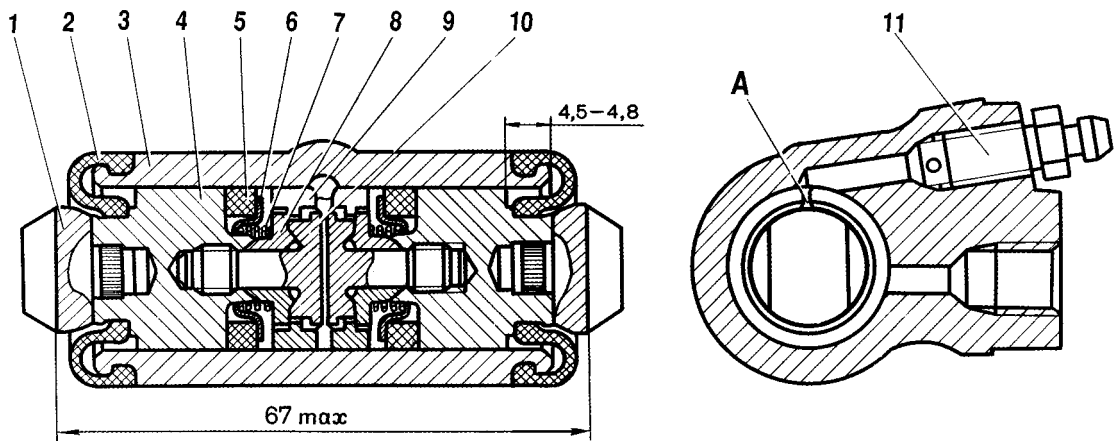

Fig. 6-19. Wheel cylinder:
Remove protective caps 2 (fig. 6-19), then press out from the cylinder body 3 pistons 4 in assembly with the components of the automatic shoe-drum clearance adjuster.
- slot A (see fig. 6-19) on thrust rings should be directed vertically upward; vertical deviation should be no more than 30°. Such position of the slot provides complete air bleeding from the brake mechanism;
- when press-fitting the piston in the cylinder it is necessary to maintain the sizes of 4.5-4.8 mm and 67 mm (maximum) (see fig. 6-19) for free landing of the brake drum;